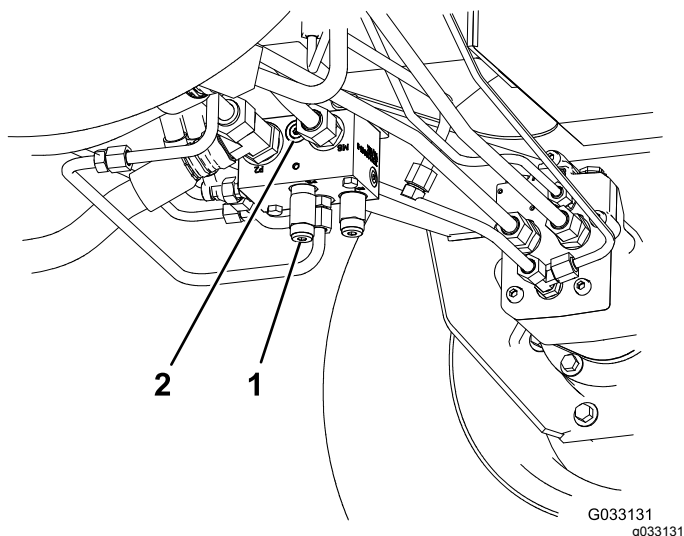

Figure 61
- Toro Part No. 95-0985, coupler fitting (2)
- Toro Part No. 340-77, hydraulic fitting (2)
1. Install a diagnostic fitting in the unmarked port located between ports M8 and P2 on the rear traction manifold (Figure 61).